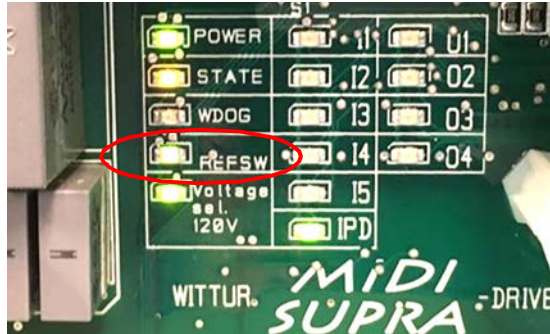

Figure 12 - Activated REFRSW (reference switch) LED
13. Verify that the REFRSW (reference switch) LED activates approximately $\frac{1}{2}$ " before the door is closed. See Figure 12.